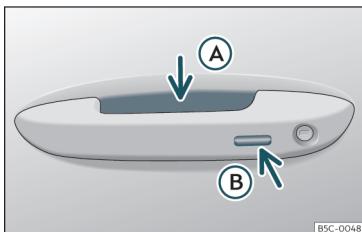

Fig. 77 Door handle: sensor surfaces
>>> Fig. 77
»» **Fig. 77 A** (arrow) of the handle and the vehicle unlocks.
»» **Fig. 77 B** (arrow) on one of the front door handles. The door that is used must be closed.
- Touch (*once*) the sensor surface»» **Fig. 77 B** (arrow) on one of the front door handles. The vehicle locks with the "Safe" security system»» page 99. The door that is used must be closed.
- Touch (*twice*) the sensor surface»» **Fig. 77 B** (arrow) of one of the front door handles to lock the vehicle without activating the "Safelock" security system»» page 99.
» **Fig. 77 B** within the following 5 seconds. Do not grasp the door handle; otherwise the vehicle will not unlock. Deactivation is also possible if the vehicle is locked through the driver's door lock.
To close all the electric windows and the sunroof using the **comfort function**, keep a finger for a few seconds on the locking sensor surface » **Fig. 77 B** (arrow) of the door handle until the windows and roof have closed.
The sensor surfaces on the door handles could engage if hit with a water jet or high pressure steam if there is a valid vehicle key in the proximity. If at least one of the electric windows is open and the sensor surface » **Fig. 77 B** (arrow) on one of the handles is activated continuously, all windows will close.
- **OR:** touch the sensor surface on the outside of the door handle twice >>> Fig. 77